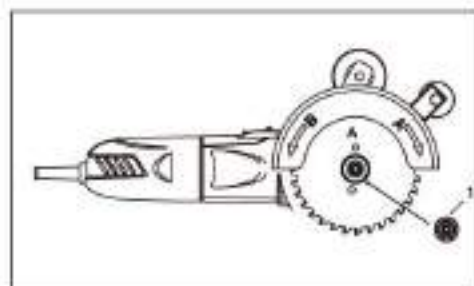

Fig.2
3. Open the lower guard (see Fig. 2)
3. Open the lower guard (Fig.2)
5. Align the holes on the blade with the pins on the flange and securely fit the blade on the flange (see Fig. 2).